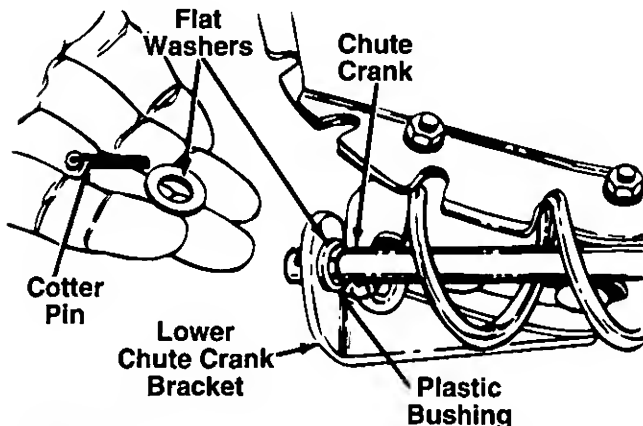

FIGURE 6.
4. Place one flat washer on the end of the chute crank, then insert the end of the crank into the hole in the plastic bushing in the chute crank bracket. See figure 6. Place the other flat washer on the end of the chute crank, and insert cotter pin into hole in the end of crank. Secure by bending the ends of cotter pin in opposite directions.